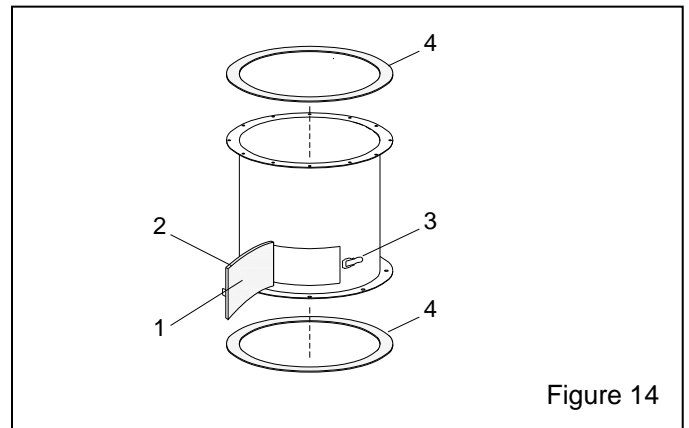

Figure 14
14.4 Storage Hopper, Figure 14